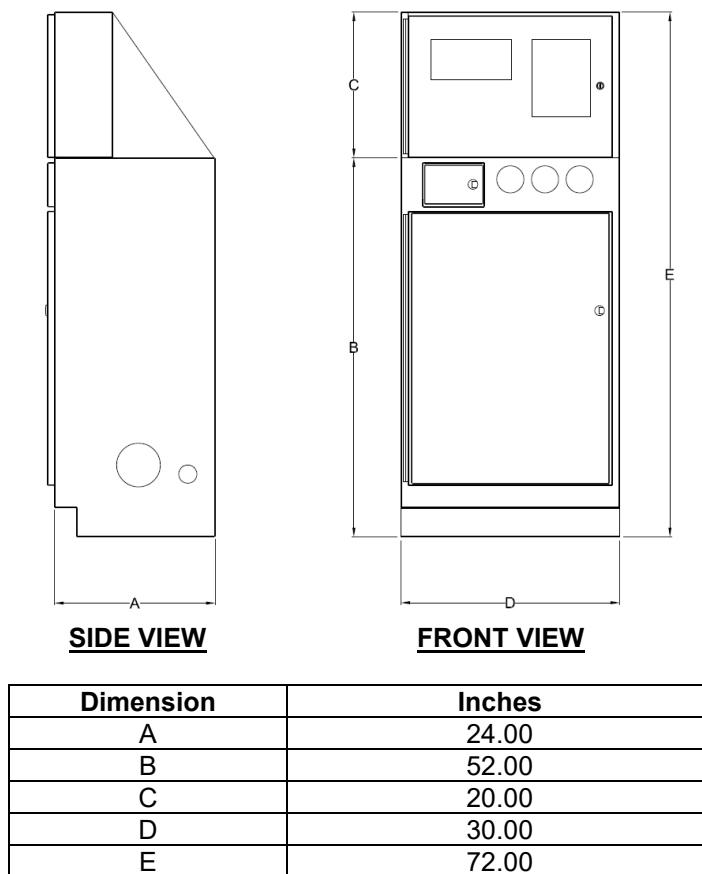

Figure 4 – Diagram - Overall Dimensions
1.10.1. Location. Locate the **PREACTION-PAC™** assembly as shown on the system shop drawings or design plans. The location should be dry, clean, and within the Approved temperature range of the assembly (+40 deg F to +110 deg F). Refer to Figure 4 for overall dimensions.